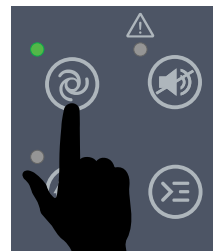

Figure 103. Auto Mode Button
2. Press the **Auto Mode** button (Figure 103) on the digital controller. The **green LED** next to the button will light up, and the status message **ISLAND AUTO** will appear on the screen.